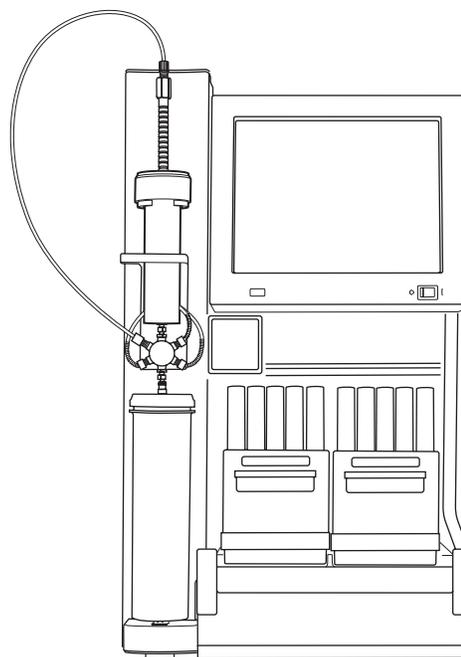

Figure 5: Secure the cartridge assembly on the system. (CombiFlash Rf 200 system shown.)
6. Place the cartridge assembly on the system and secure it to the Luer fitting (Figure 5).